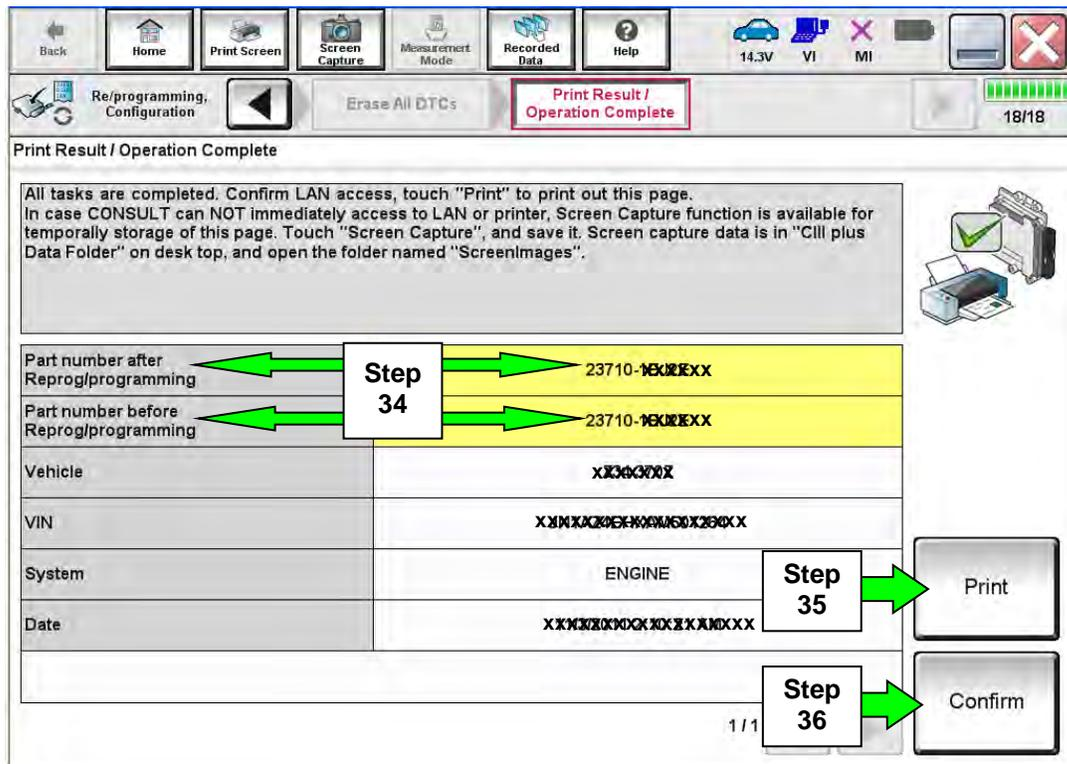

Figure 30
33. When the entire reprogramming process is complete, the screen in Figure 30 will display.
35. Print a copy of this screen (Figure 30) and attach it to the repair order for warranty documentation.